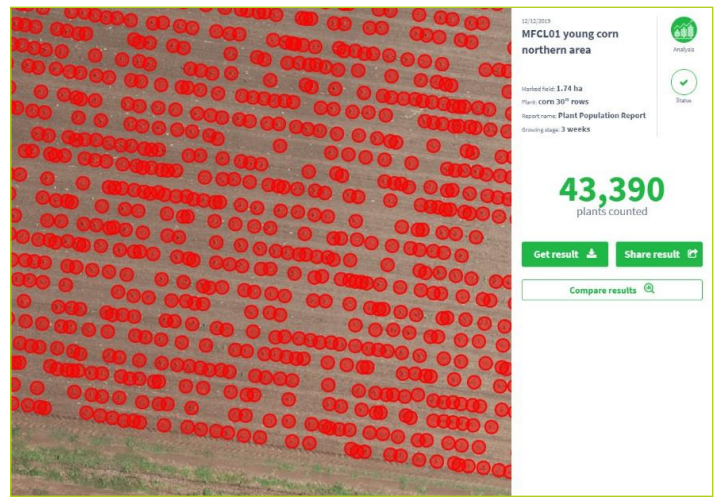

Figure 3. Automated plant counts in sweet corn. Red circles indicate counted plants.
Artificial Intelligence (AI) and Machine Learning (ML) now deliver automated plant counts and weed recognition (Figure 3). These analytics use specially developed algorithms that count plants visible in the orthomosaic. These algorithms are commercially available through Cloud based platforms e.g. Agremo®, Precision Hawk. Automated counts can struggle differentiating between some weeds and the crop. For more accurate counts, fields should have as few weeds as possible.